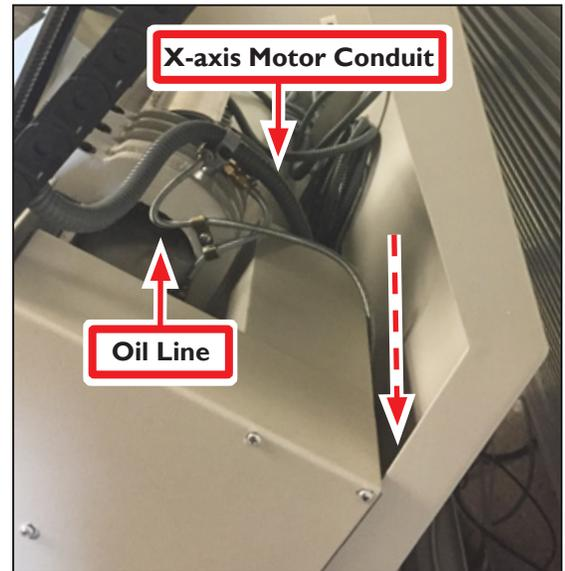

Figure 2.25
- a. Following the X-axis motor conduit toward the lathe bed (see **Figure 2.25**)